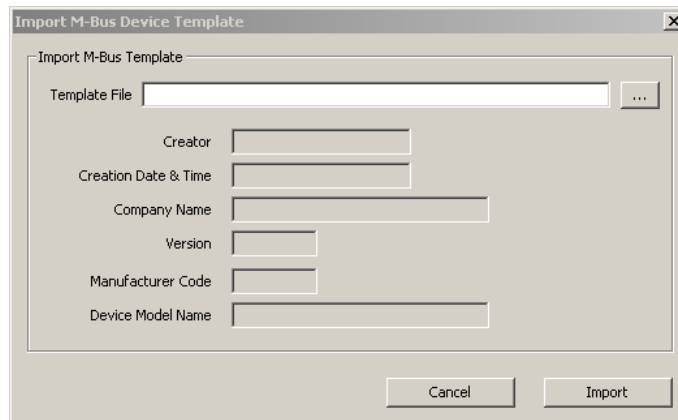

Figure 197: Import M-Bus Device Template dialog.
2. This opens the **Import M-Bus Device Template** dialog shown in Figure 197.